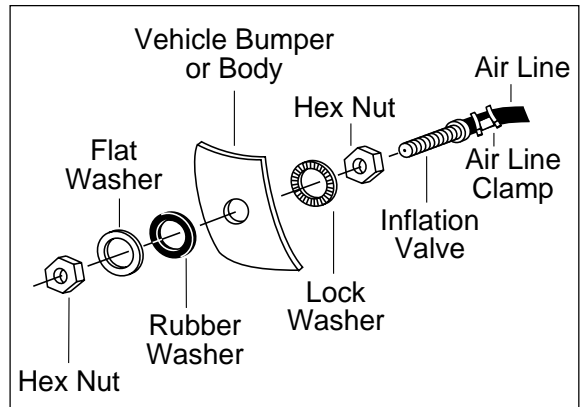

Figure 6
- l. Drill a  $\frac{5}{16}$ " hole for inflation valve and mount as in illustration (Figure 6). The rubber washer is for an outside weather seal.
- h. Drill  $\frac{5}{16}$ " hole for inflation valves and mount as illustrated. The rubber washer is for an outside weather seal (Figure 6).